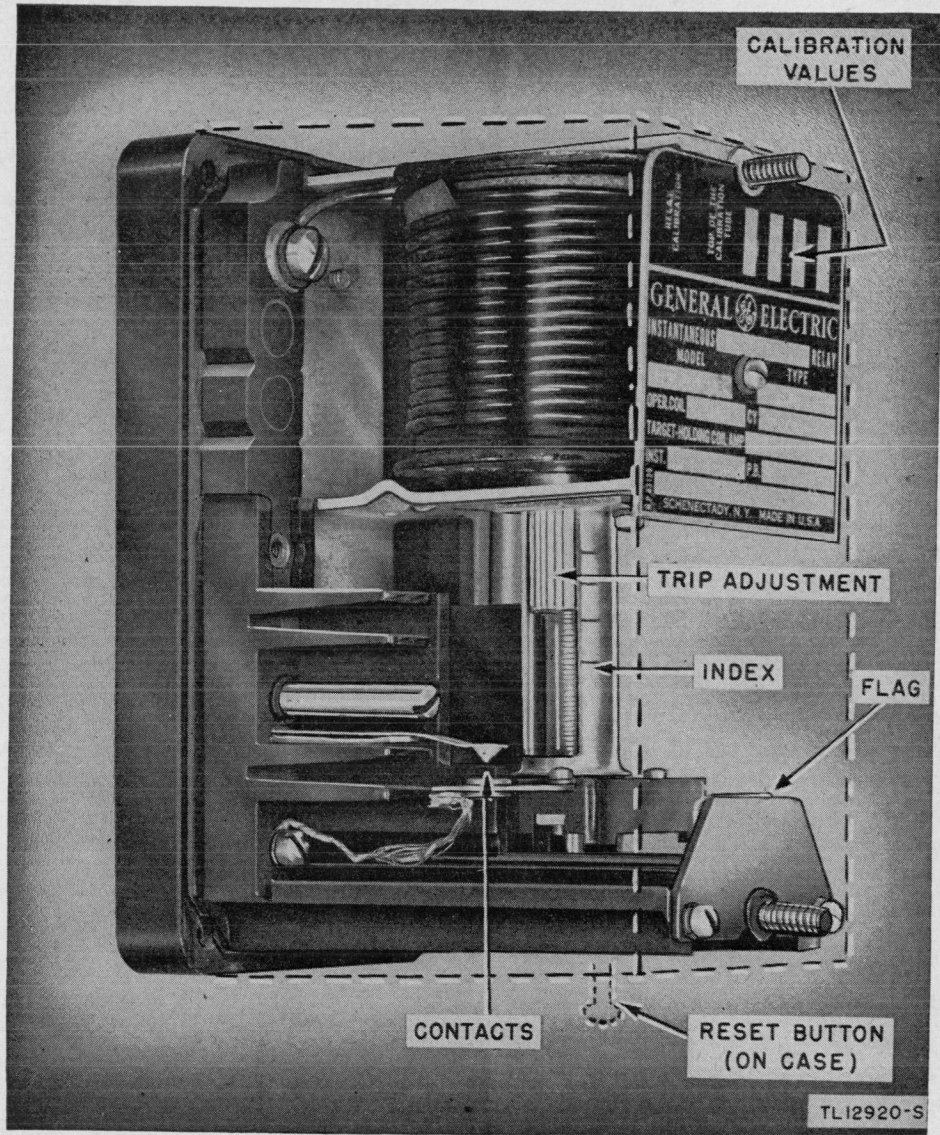

Figure 16. D-c overload relay.
a. OVERLOAD RELAYS. These relays are of the type shown in figure 16. This type of relay may be adjusted for the amount of current required for tripping by turning the knurled knob. Screwing the knob down will increase the current required for tripping. The approximate tripping current may be set by placing the bottom edge of the knob opposite the desired point of the scale on the calibration tube. The current values represented by the various lines on the scale are marked in the relay calibration chart which is along the top of the name plate of each relay.